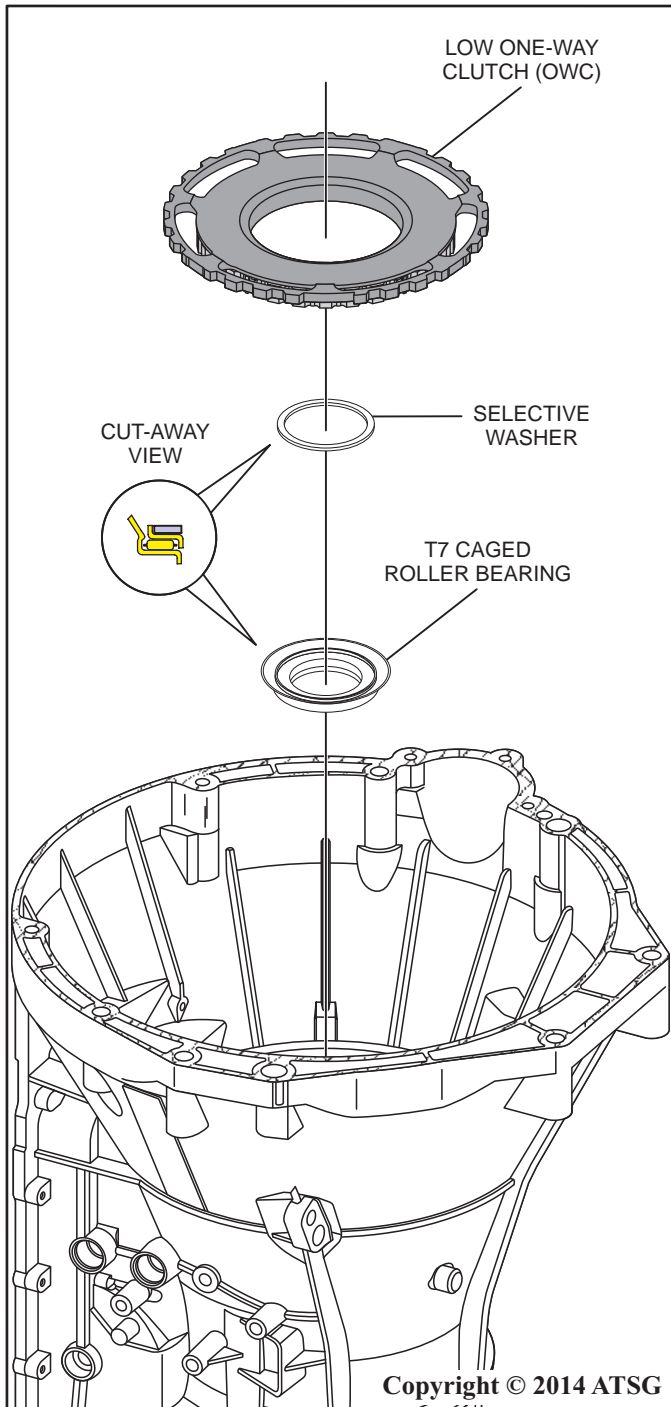

Figure 53
34. Remove the low one-way clutch (OWC) as shown in Figure 53 and set aside for disassembly and cleaning.
35. Remove the selective washer and the T7 caged roller bearing as shown in Figure 53.